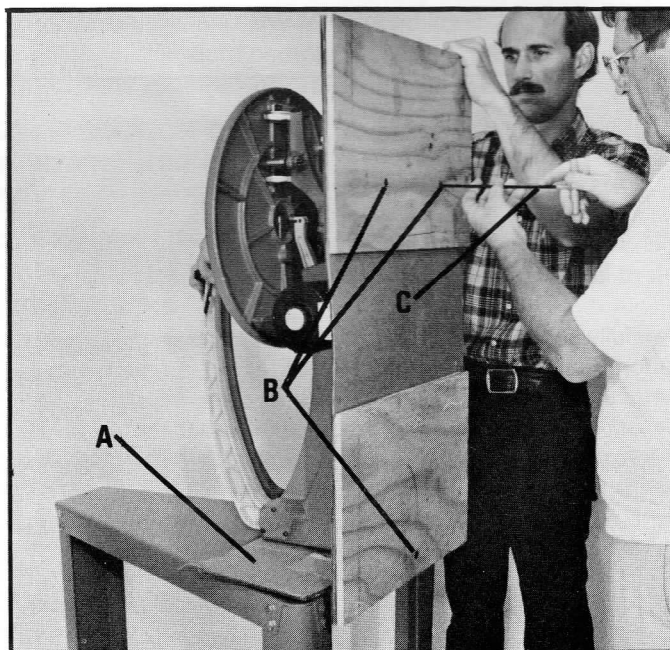

Fig. 7
1. Place a piece of cardboard (A) on the top shelf of stand, as shown in Fig. 7.
2. Place the rear end of the saw on the cardboard and while one person holds the saw, remove the three screws (B) as shown in Fig. 7, using the T-handle wrench (C) supplied.